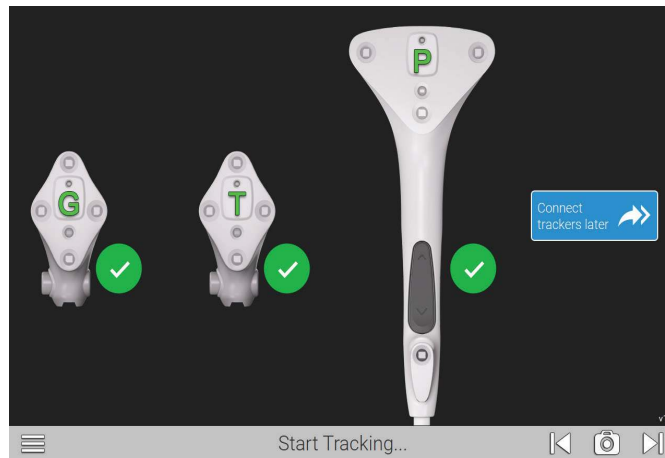
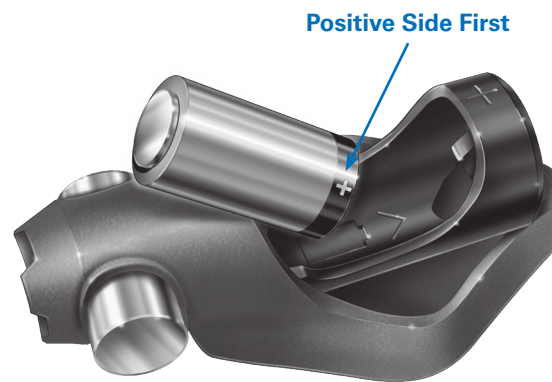

Figure 8
Figure 9
The Seeking Tracker screen is displayed (Figure 8). Insert batteries, positive side first, into the three Trackers **Probe Tracker (P)**, **Glenoid Tracker (G)**, and **Tool Tracker (T)** (Figure 9).